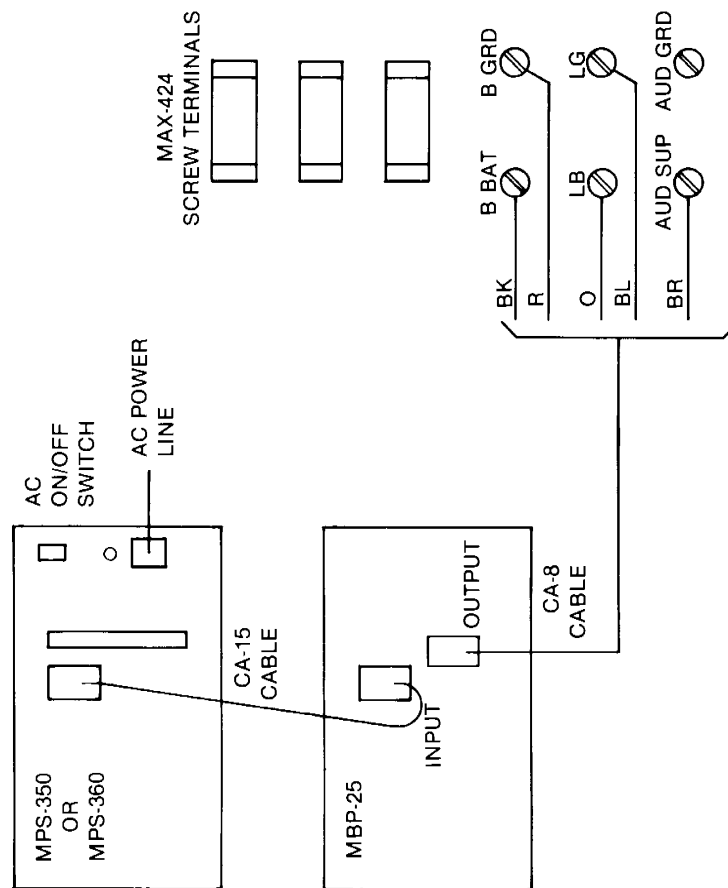

Fig. 3 — Power Connections to MAX-824.
3.02 Connect the MBP-25 as shown in Figure 3.